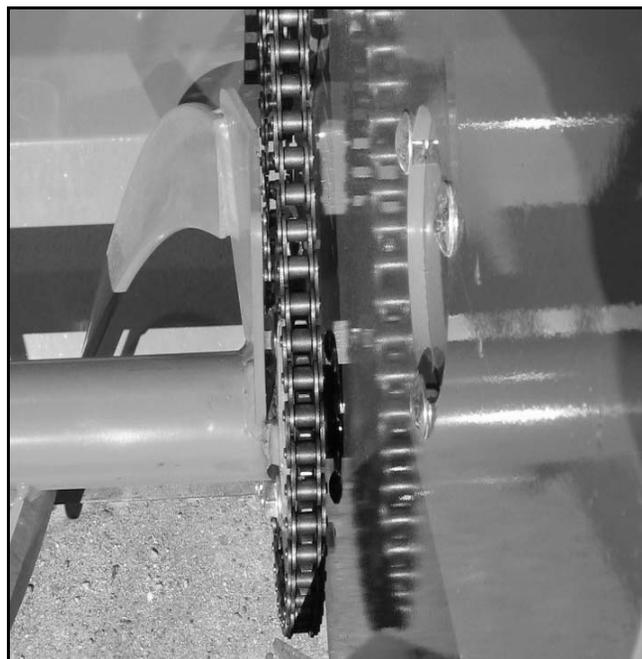

Figure 9. Drive Chain Lubrication
1. Apply grease to drive sprocket grease zerk (See Figure 9).
2. Apply grease or oil to the drive chain regularly, especially after using (See Figure 9).